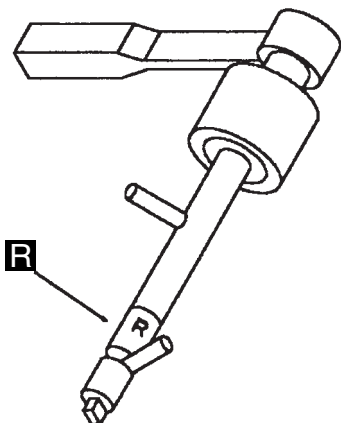

Figure 4-85. Actuation Tool (TCM Removal)
- Before using the TCM actuation tool, ensure that the detent pin in the tool is in the **Removal position R** (as shown Figure 4-85).